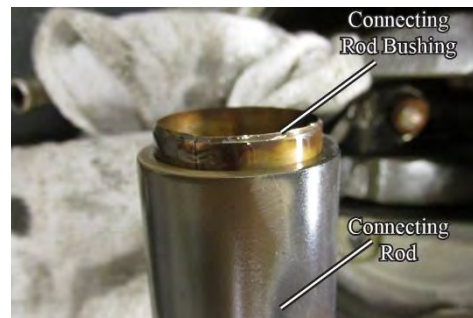

Figure 5
- (4) If the edge of the connecting rod bushing is raised above the surface of the connecting rod perimeter (Figure 5), the connecting rod bushing is loose or has moved or is out of place. Remove, discard, and replace the connecting rod bushing.
- (b) If the sum total of the measurements from both sides of the connecting rod is greater than 0.038 in. (0.965 mm) (it is an indication the connecting rod bushing is loose or has moved or is out of place) (Figure 5). Remove, discard, and replace the connecting rod bushing.